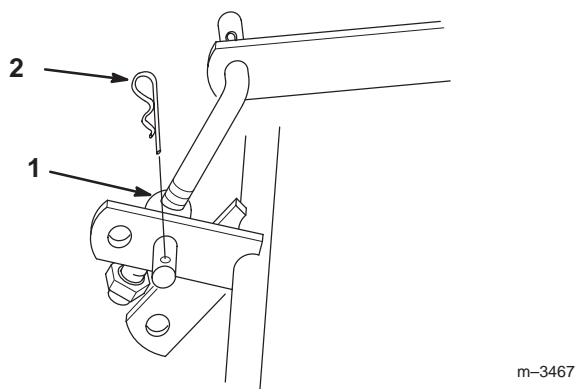

Figure 3
- Place adjustable link trunnion into rear wheel shaft bracket and secure with hairpin cotter (Fig. 3).